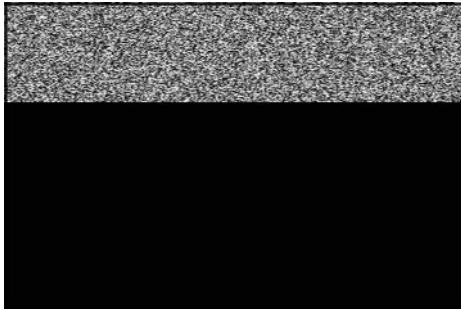

Figure 24
1. Drain oil, unscrew filter (**A**, Figure 24) and discard.